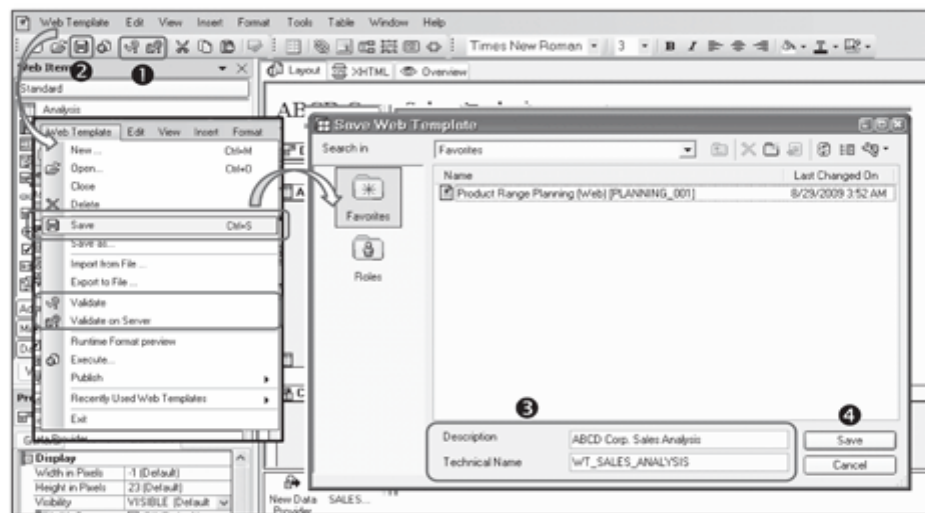

Figure 11.17 Validate and Save the Web Template
After the web template is designed, you can validate the definition of the web template using the options shown in ❶ of Figure 11.17. Use the Validate option to validate the definition of the web template for consistency in the definition. The other option, Validate on Server, validates the web template definition as well as checks the consistency with respect to the data providers and other elements based on their definition on the server.
After the definition of the web template is validated, save the web template using the button shown in ❷ of Figure 11.17. You can also use the menu option **WEB TEMPLATE • SAVE** to save the template.